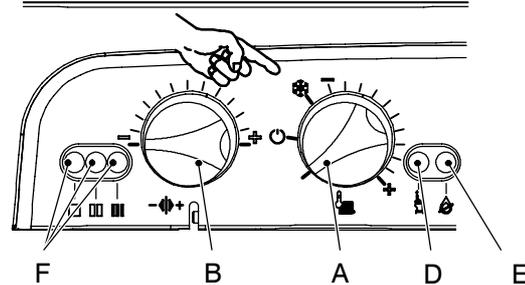

Fig. 20
- 4 Turn the boiler ON positioning the function selector knob A as indicated in Fig. 20 (M96A.24SR/..., M96A.28SR/...) and ensure that the timer selector switch and room thermostat, if fitted, are set to "heat demand".